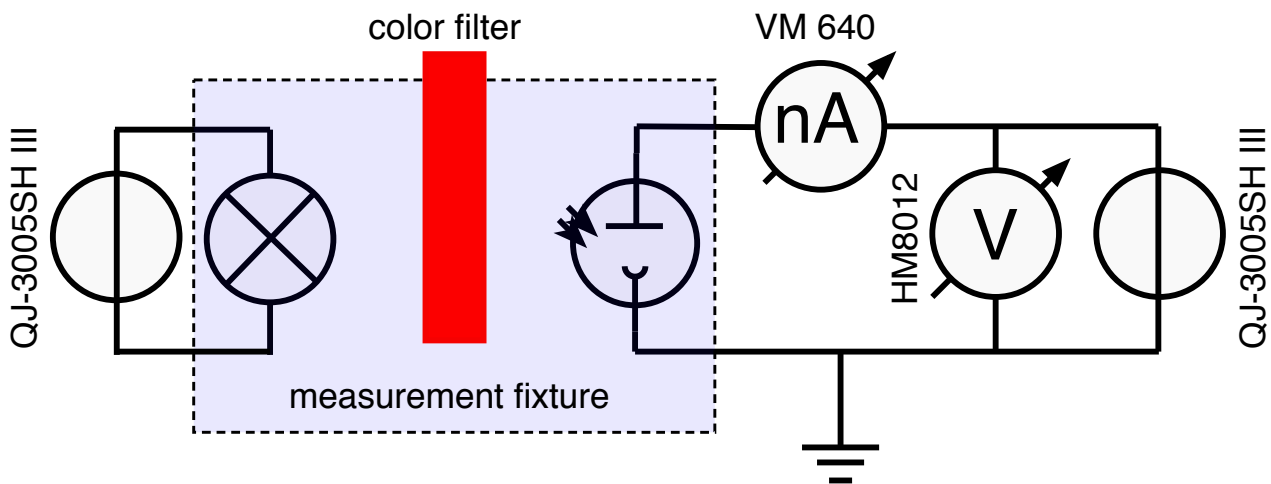

FIG. 5.
1. The test circuit should be wired according to the Fig. 5. The power supplies must be switched off!